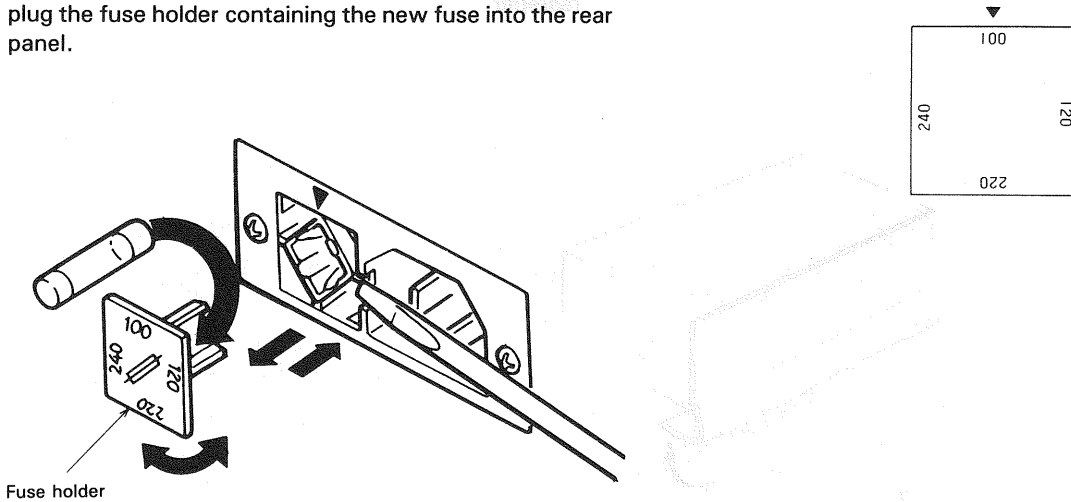

Fig. 67
2. Remove the fuse holder in the rear panel using a standard screwdriver (see Fig. 67).
Remove the fuse holder in the rear panel using a standard screwdriver. Then set the label of your line voltage to the mark ▼ and plug the fuse holder back into place. When changing the supply setting from 100/120 V to 220/240 V, change the 1.2 A fuse for a 0.8 A one. (see Fig. 67)